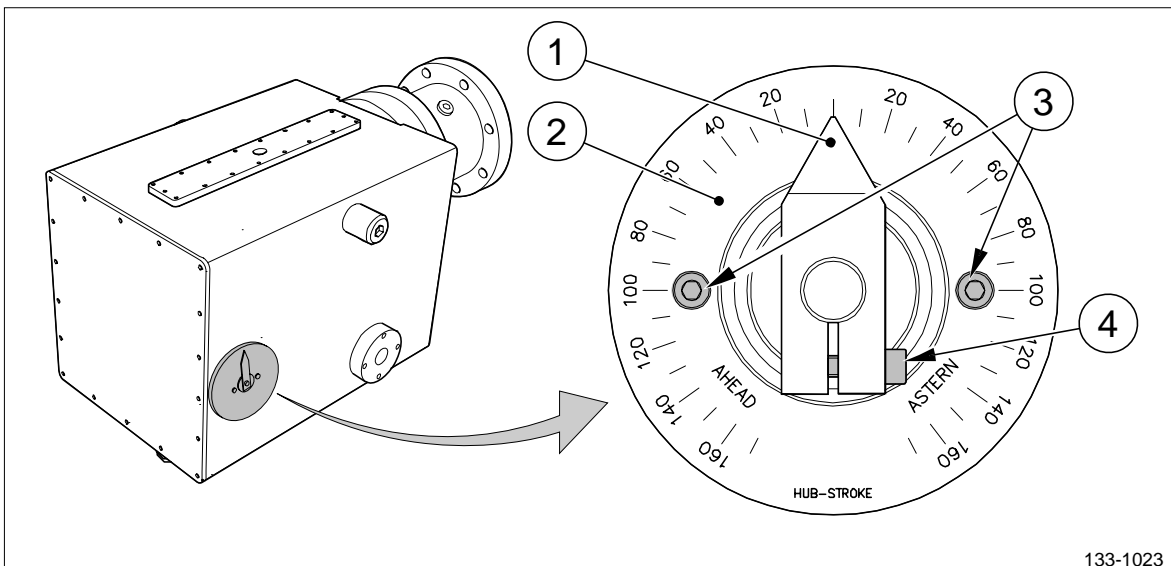

Figure 3 Pointer and scale on OD-box.
9. Make sure the screw (pos 4, figure 3) which secures the pointer (pos 1, figure 3) on the mechanical pitch indicator, is properly tightened. Tighten if necessary.
10. Make sure the screws (pos 3, figure 3), which secures the scale (pos 2, figure 3) on the OD-box, are properly tightened. Tighten if necessary.